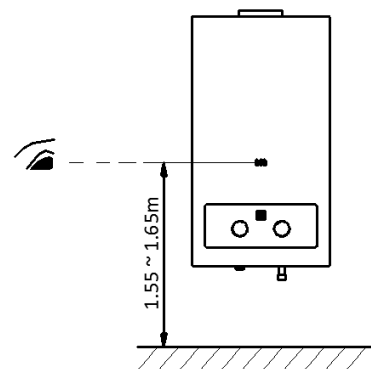
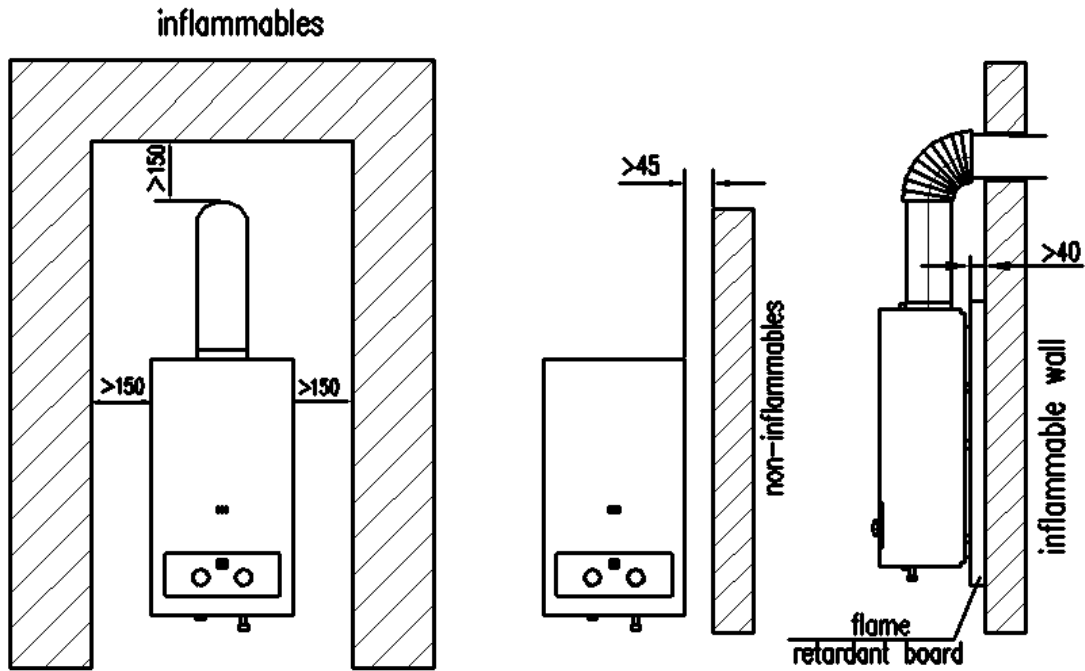

Fig.3
Fig.4
- The flame-view window of the appliance shall be at the level of eyes about 1.55m-1.65m above the floor. (Fig.3), which is ergonomic for flame checking. And the appliance must keep certain distances from nearby objects whether inflammable or flame retardant in case of fire accidents (Fig.4).